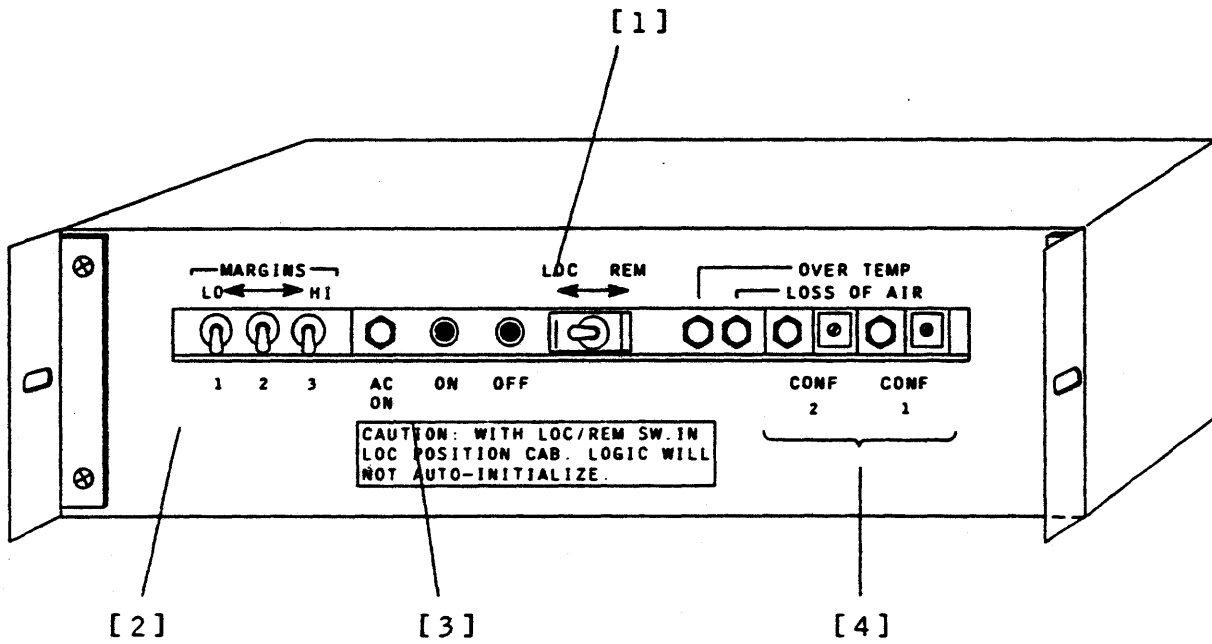

FIGURE 3.6-1. POWER CONTROL MODULE (58059801) ADJUSTMENT
1. Position LOCAL/REMOTE switch on Power Control Module in LOCAL position (Figure 3.6-1, [1]).
2. Ensure that there are no system margins active on this unit (MARGINS in center position) (Figure 3.6-1, [2]).
4. Press and release POWER CONTROL ON switch at Power Control Module (Figure 3.6-1, [3]).
2. Slowly turn pot to be adjusted (either direction) until CONF LED illuminates (Figure 3.6-1, [4]).